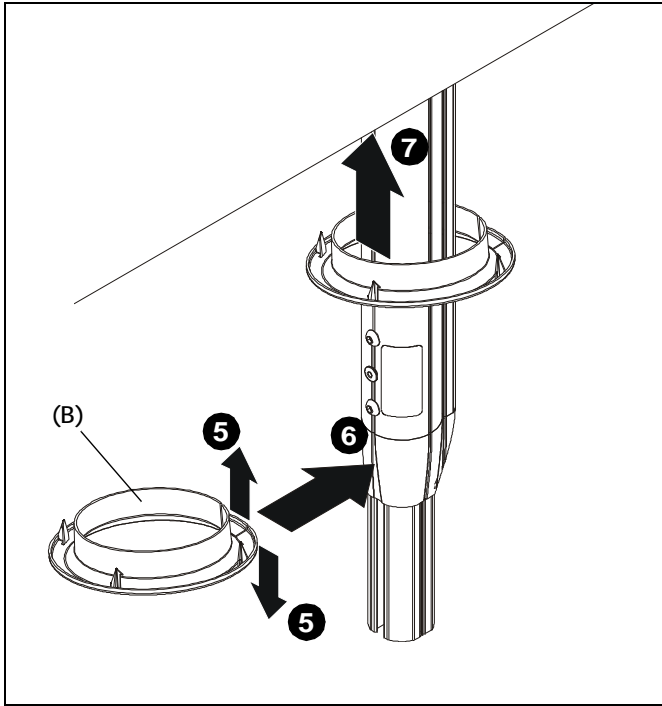

Figure 11
5. Maneuver shield ring (B) so that it wraps around extension column. (See Figure 11)
6. Wrap ring (B) around extension column. (See Figure 11)
7. Press ring (B) into hole cut in Step 3 until the ring securely fits in hole. (See Figure 11)